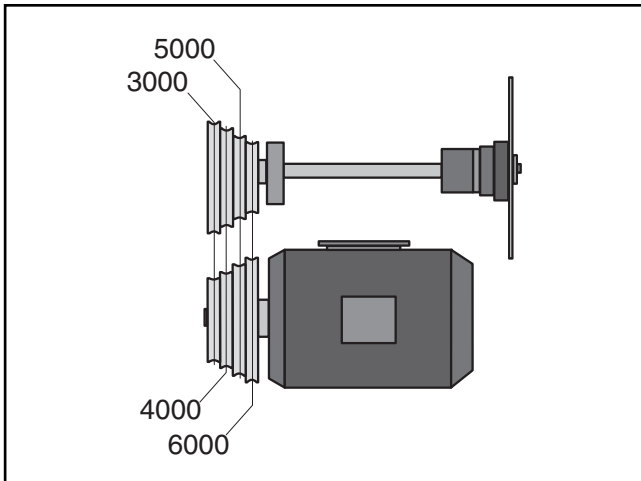

Figure 62. Belt speed diagram.
- Position the V-belt in one of the pulley locations illustrated in **Figure 62**, depending on your desired blade speed.